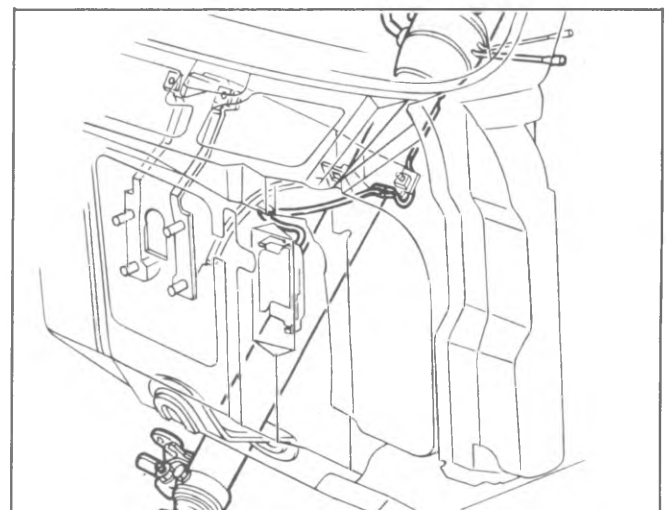

Fig. 3B-65--Steering Columns to Dash Panel-G
7. Remove the screws securing the two halves of the floor pan cover; then remove the screws securing the halves and seal to the floor pan and remove the covers (fig. 3B-64 and 3B-65).
8. Remove the transmission indicator cable, if so equipped (fig. 3B-63).
C and K Series Except Tilt Columns-(Fig. 3B-66)
NOTE: G and P Series columns differ from those shown in Figures 3B-66 thru 3B-74.